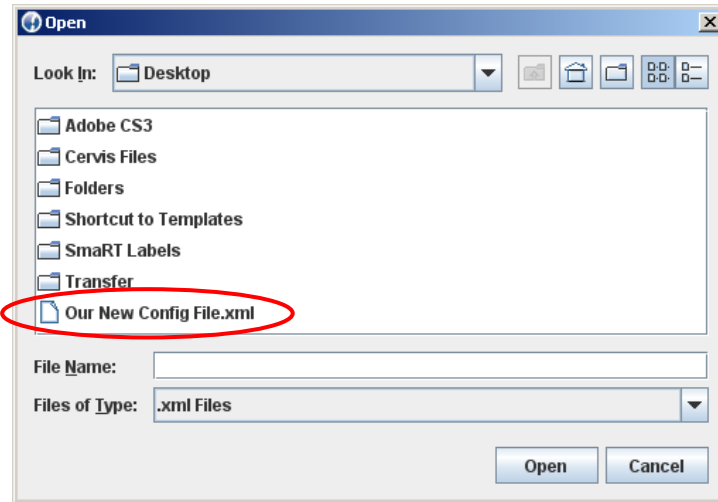

Figure 19
1. The **File Menu → Open workspace...** is used to re-open a saved Workspace. When **Open workspace...** is chosen, the program opens to where the last saved workspace file was stored. Our example in Figure 19 below opens to the **Desktop**, and in this case there is only one workspace saved, **Our New Config.xml**.